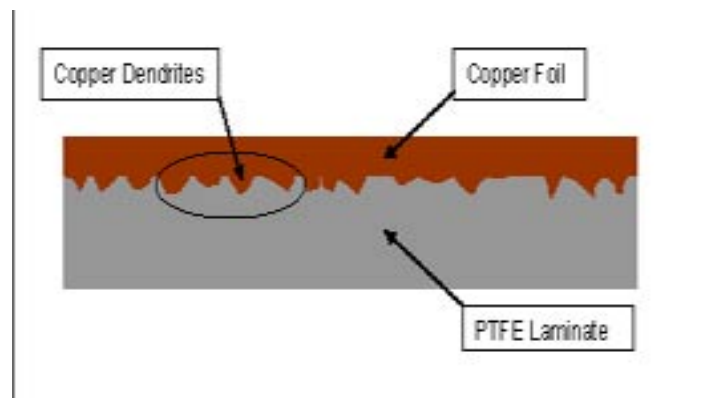

Figure 1 – Illustration of copper laminated to PTFE surface
**Bond Surface Condition:** The condition of the substrate surface prior to bonding is critical in achieving good inner layer bond strength. As shown in Figure 1, the copper foil of the laminate has a dendrite structure designed to increase the copper peel strength. As the copper foil is etched, the dendrite imprint is left in the substrate surface. It is critical to subsequent multilayer bonding that this structure be present and undisturbed. Any mechanical abrasion of the substrate surface will destroy the imprint pattern and can result in poor bond strength between the layers. If the surface is destroyed, a sodium or plasma etch prior to multilayer bonding will greatly enhance surface adhesion. It is recommended that proper handling techniques be used at all times (see Handling of PTFE Laminates). It is also recommended that any processes used to clean the copper surface